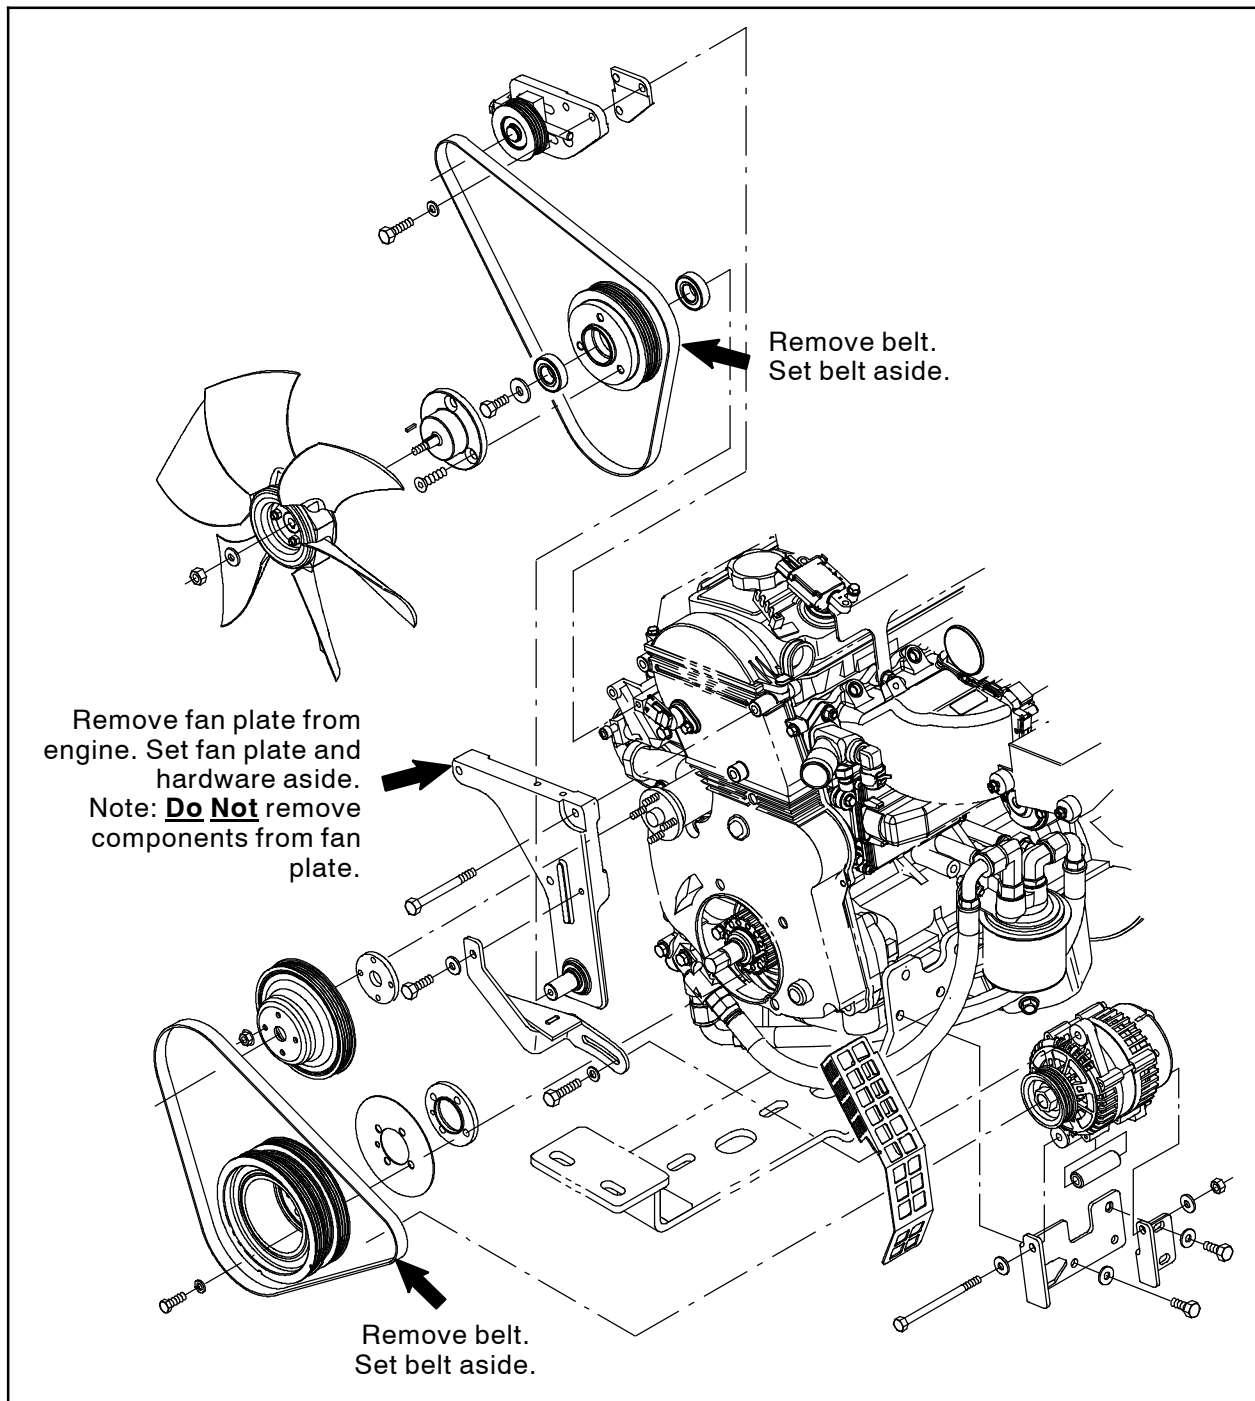

FIG. 4 - M20 / M30 / T20
6. **M20 / M30 / T20:** Remove all cooling fan group parts necessary to access / remove the cylinder head cover from the engine. Set all removed parts aside. (Fig. 4)